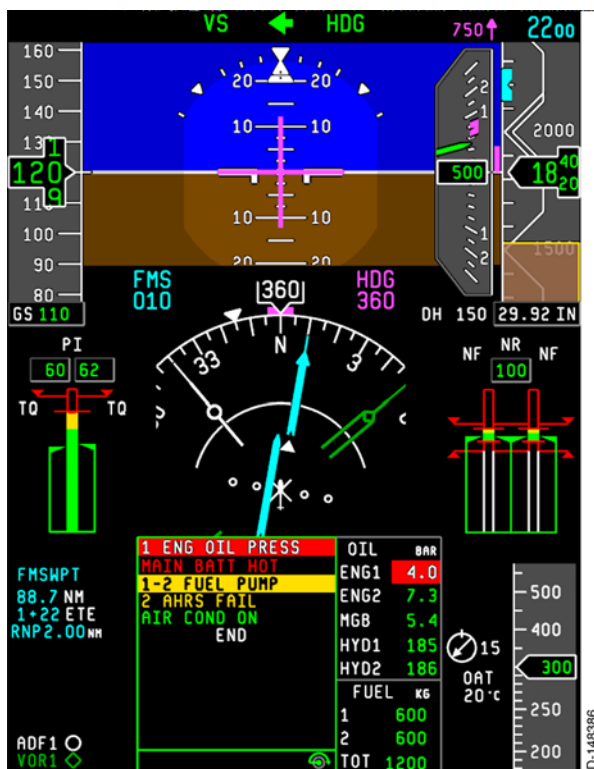

Figure 7-1
In the four-display unit (DU) system configuration the manual and automatic DU reversions are supported. The autoreversion functionality reconfigures the display unit to composite format, as shown in Figure 7-1, to display essential data from the PFD and MFD on the non-failed DU.
Under reversion conditions when the MFD is no longer available, the PFD engine monitoring symbols and CAS messages are displayed on the PFD, as shown in Figure 7-1. The PFD shows the minimum data necessary to continue the flight.